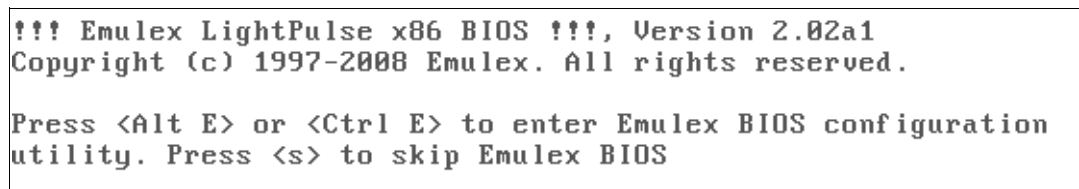

Figure 2-33 Emulex entering the Bios during post
1. During the boot process, press **Alt+ E** or **Ctrl+E** to enter the BIOS configuration utility, as shown in Figure 2-33.